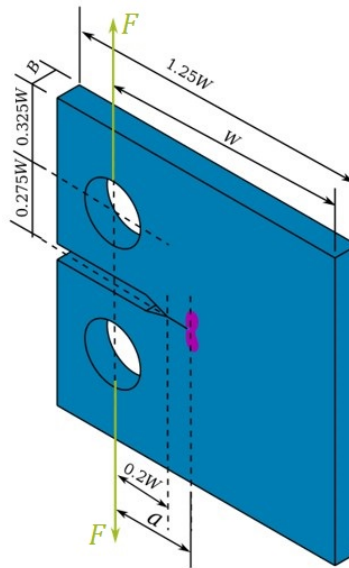

Figure 3: Compact tension specimen for tensile fracture test and its key dimensions.
where B, W and a are thickness, (pseudo-)width and (pre-)crack length, respectively (as indicated in Figure 3). E is the Young's modulus that you can easily find on the internet. The geometry factor $f(a/W)$ is an empirical non-dimensional quantity that can be obtained from handbooks or specific literature. Note that, being the non-dimensional geometric factor an empiric formula, it might slightly vary from Equation 1a and it comes with specific requirements and/or limitations. Refer to Appendix A as a credible source for obtaining the geometry factor.
A schematic of the compact tension (CT) specimen is represented in Figure 3. During the tensile fracture test, the CT specimen is loaded via two rigid pins passing through the holes illustrated in Figure 3. The failure of the specimens happens when the load reached its maximum (i.e., at $F = F_c$) and the edge crack propagates abruptly and the specimen breaks into two parts. Due to the symmetry in loading and geometry, and thanks to the isotropy of the material, the crack propagates in a co-planar fashion (i.e., with no deviations/kinking).